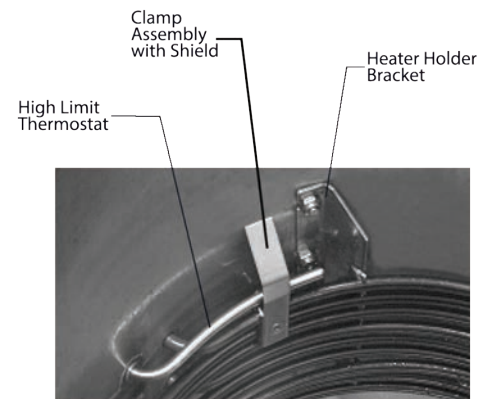

Figure 1
13. Attach thermostat bulb to heaters using bulb clamp provided. Insert bulb into square cut-out hole on clamp. Position bulb clamp toward end of bulb and make sure bulb is NOT touching heaters (see figure 1).